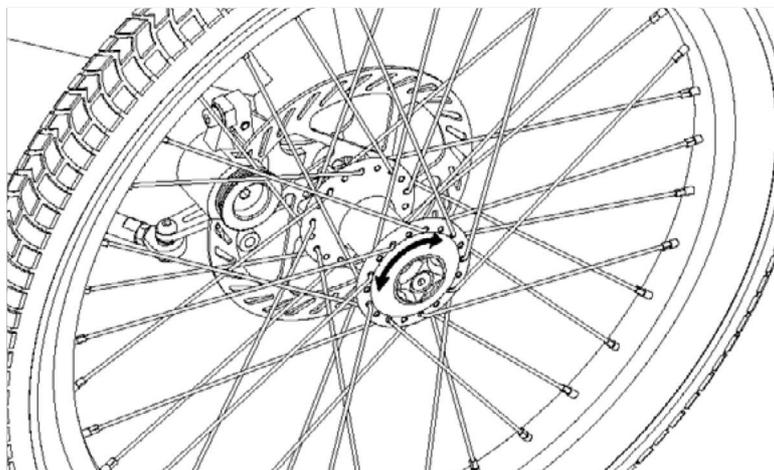

Figure 15 - Setting QR lever orientation
2. Tighten and close QR lever firmly. The closed QR lever should point rearward. Use the hub cover to rotate the QR with the QR open to orient the lever properly (Figure 15).
6. Tighten and close the QR lever. The closed QR lever should point rearward. Use the hub cover to rotate the QR with the QR open to orient the lever properly (Figure 15).